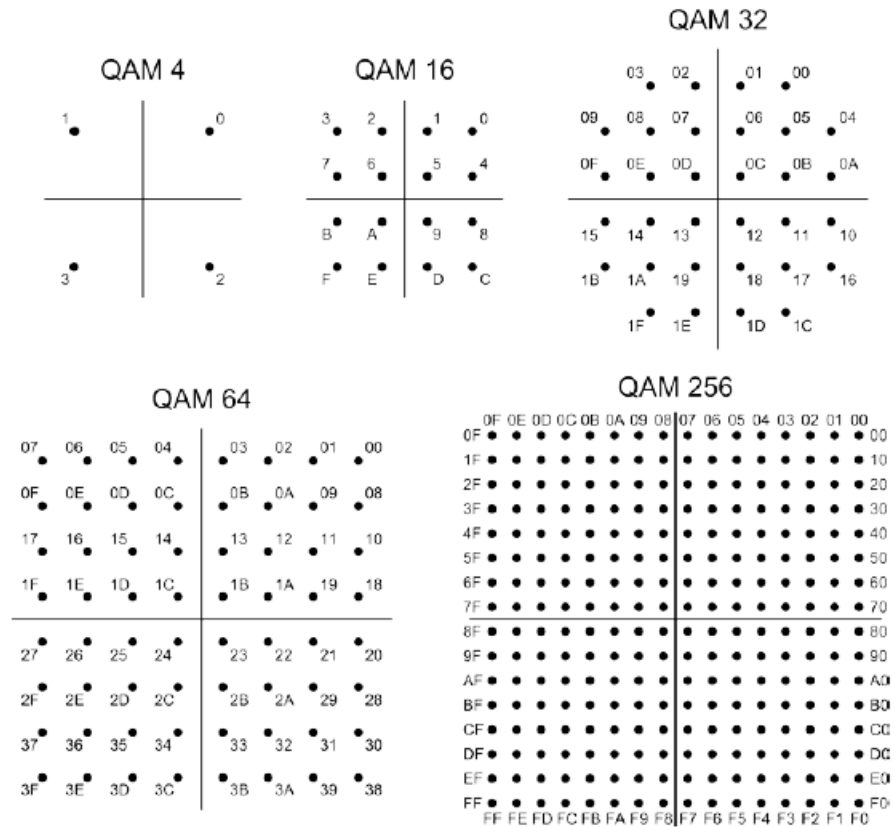

Figure 6: Constellations for QAM 4 through QAM 256
**QAM constellations.** The generators provide default constellations for QAM 4, QAM 16, QAM 32, QAM 64, and QAM 256. The constellations are all arranged as rectangular arrays with a simple right to left and top to bottom naming pattern. The front panel displayed power corresponds to the constellation points in the corners of the array. For QAM 32, it indicates the power of the “missing” point in each corner. (See Figure 6.)